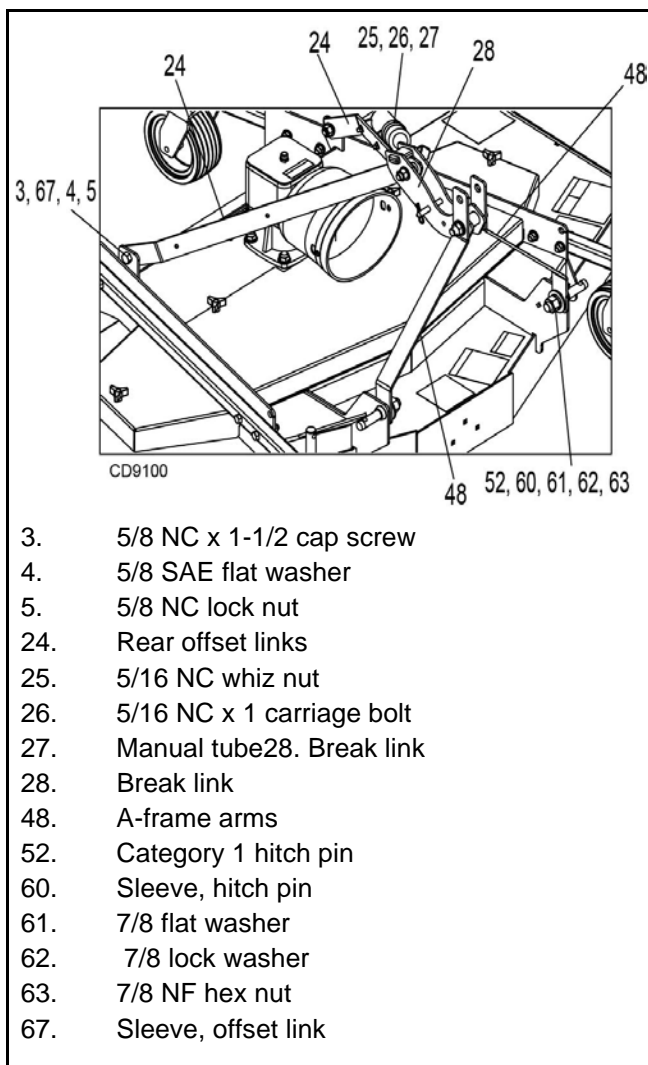

Figure 32. Hitch Assembly
Hitch Assembly (Figure 32 & 33)
2. Loosely assemble the a-frame arms (48) to the hitch plates using hitch pins (52), bushings (60), flat washers (61), lock washers (62), and 7/8 NF hex nuts (63). Torque hex nuts down onto bushings (60). See Figure 32
3. Loosely assemble squared end of the rear offset links (24) to the lugs on the gearbox stand. Use the 5/8 cap screws (3), bushings (67), flat washers (4), and 5/8 lock nuts (5). Torque hex nuts down onto bushings. See Figure 32